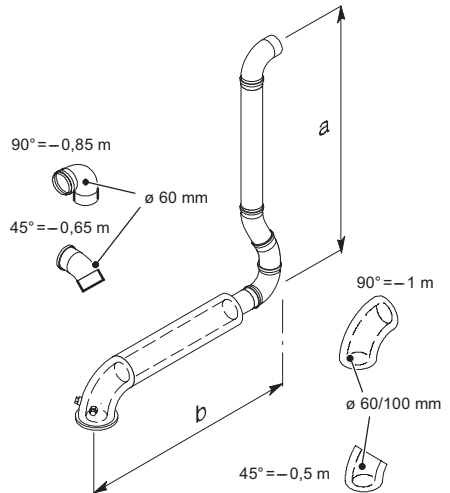

Fig. 6.14
## Plumbing kit B (13) (Fig. 6.14)
The chart 13 gives the maximum allowed value for **a + b** of (Fig. 6.14).